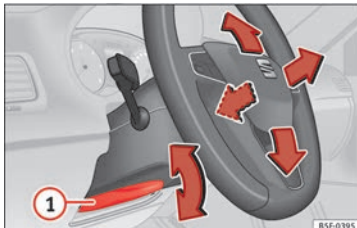

Fig. 19 Lever in the lower left side of the steering column.
- Adjusting the position of the steering wheel: Pull the » » » **Fig. 19** ① lever down, move the steering wheel to the desired position and lift the lever back up until it locks.